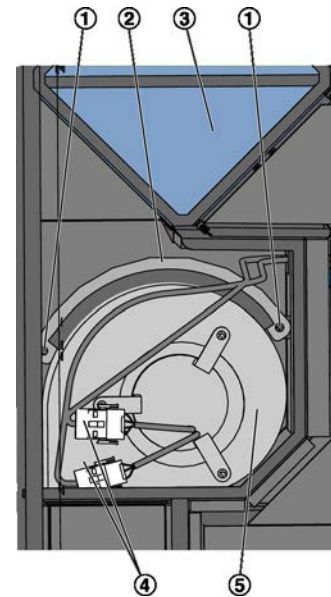

Fig. 27: Replacing the supply air fan
The supply air fan is installed below the recuperative heat exchanger (Fig. 27/3)
3. ▶ Loosen the two plug connections (Fig. 27/4).
4. ▶ Demount the retaining bracket for the fan (Fig. 27/2) by loosening the two Phillips screws (Fig. 27/1).
5. ▶ Remove the fan (Fig. 27/5).